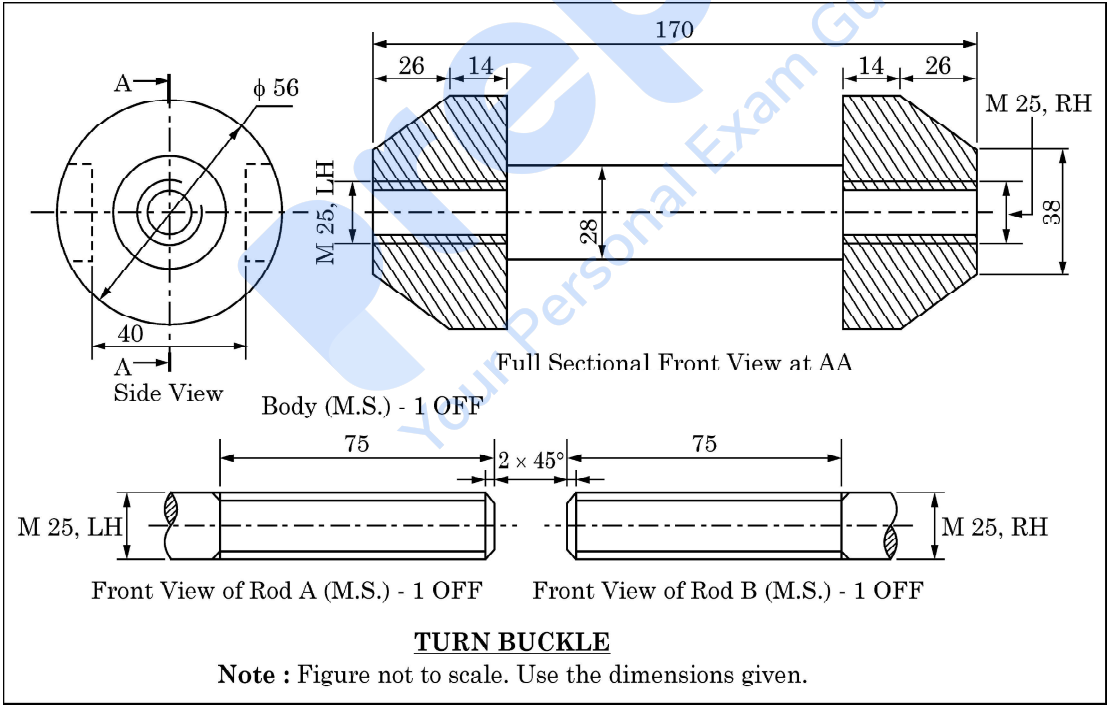

FIG. 1
2. FIG. 1 shows the details of the parts of a **TURN BUCKLE**. Assemble all these parts correctly and then draw to scale 1 : 1 its following views. Keep 60 mm threaded portions of each rod inside the body of Turn Backle.